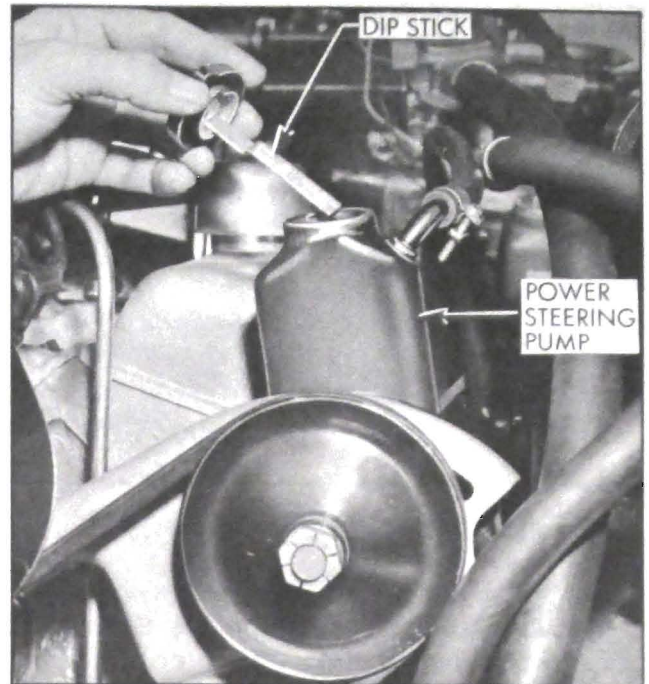

Figure 1-7—Power Steering Pump Reservoir
13. Power Steering Gear. Thoroughly clean dirt from reservoir cap on top of oil pump, then remove cap. Wipe dip stick and reinstall cap to check oil level. Add oil to maintain level between "Full" and "Add" marks on dip stick with system warmed up. See Figure 1-7.